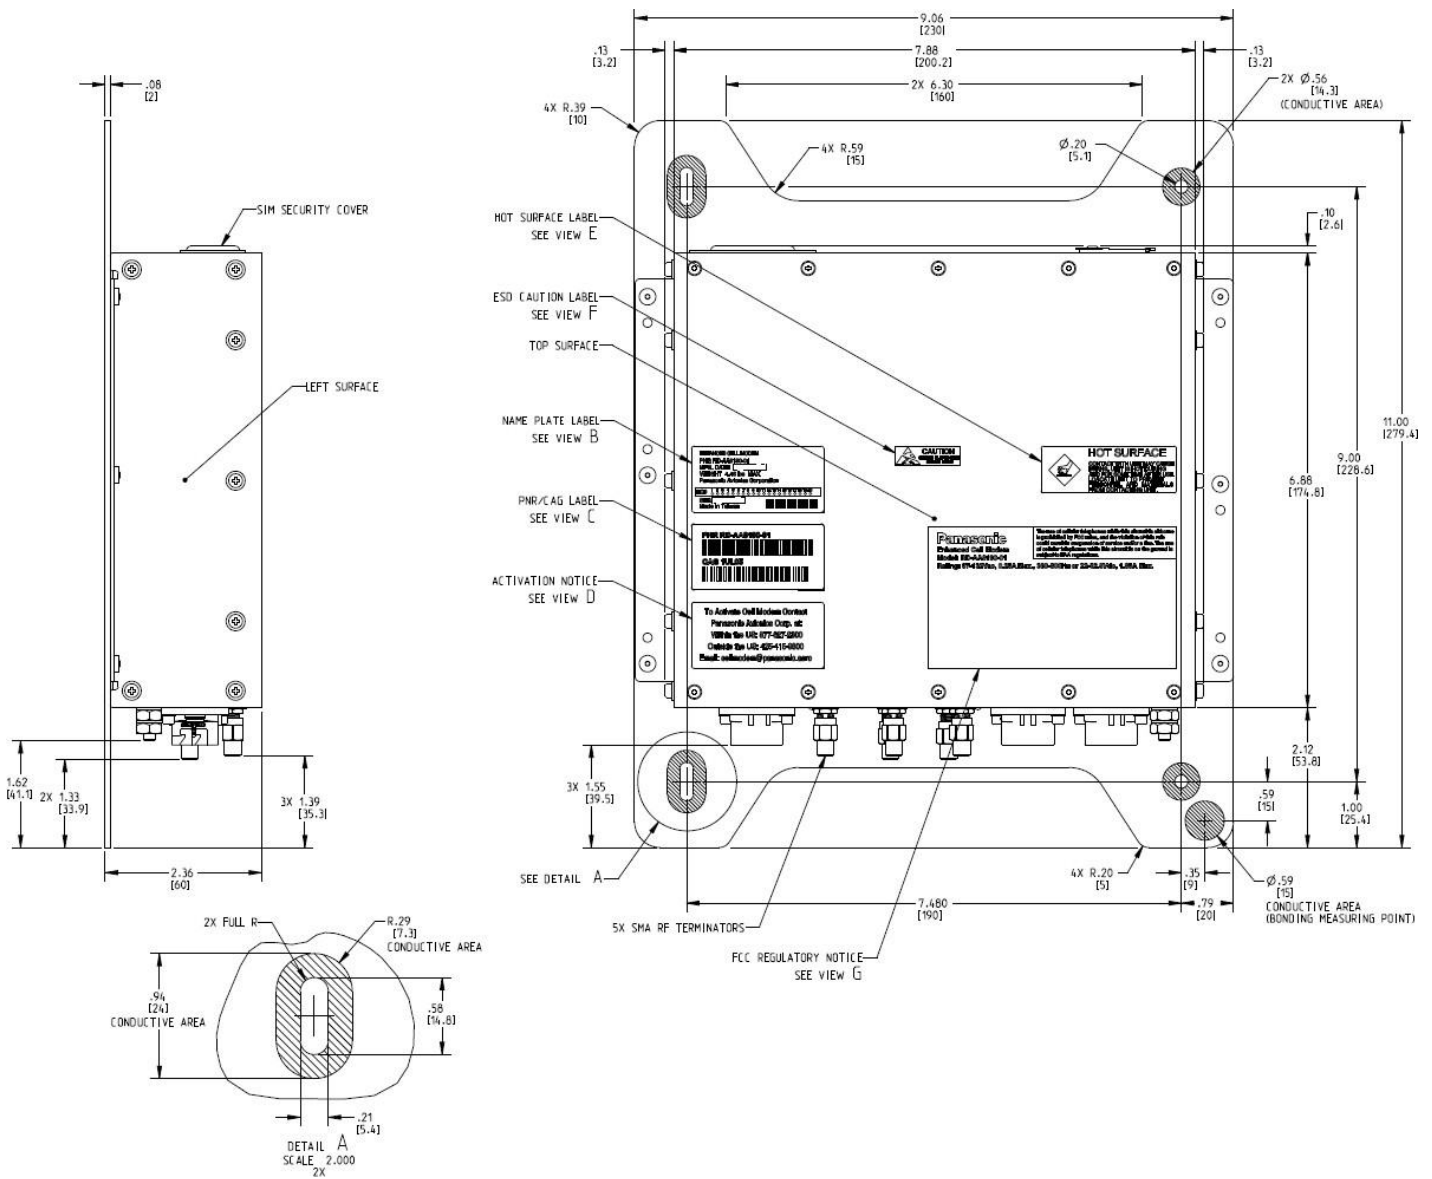
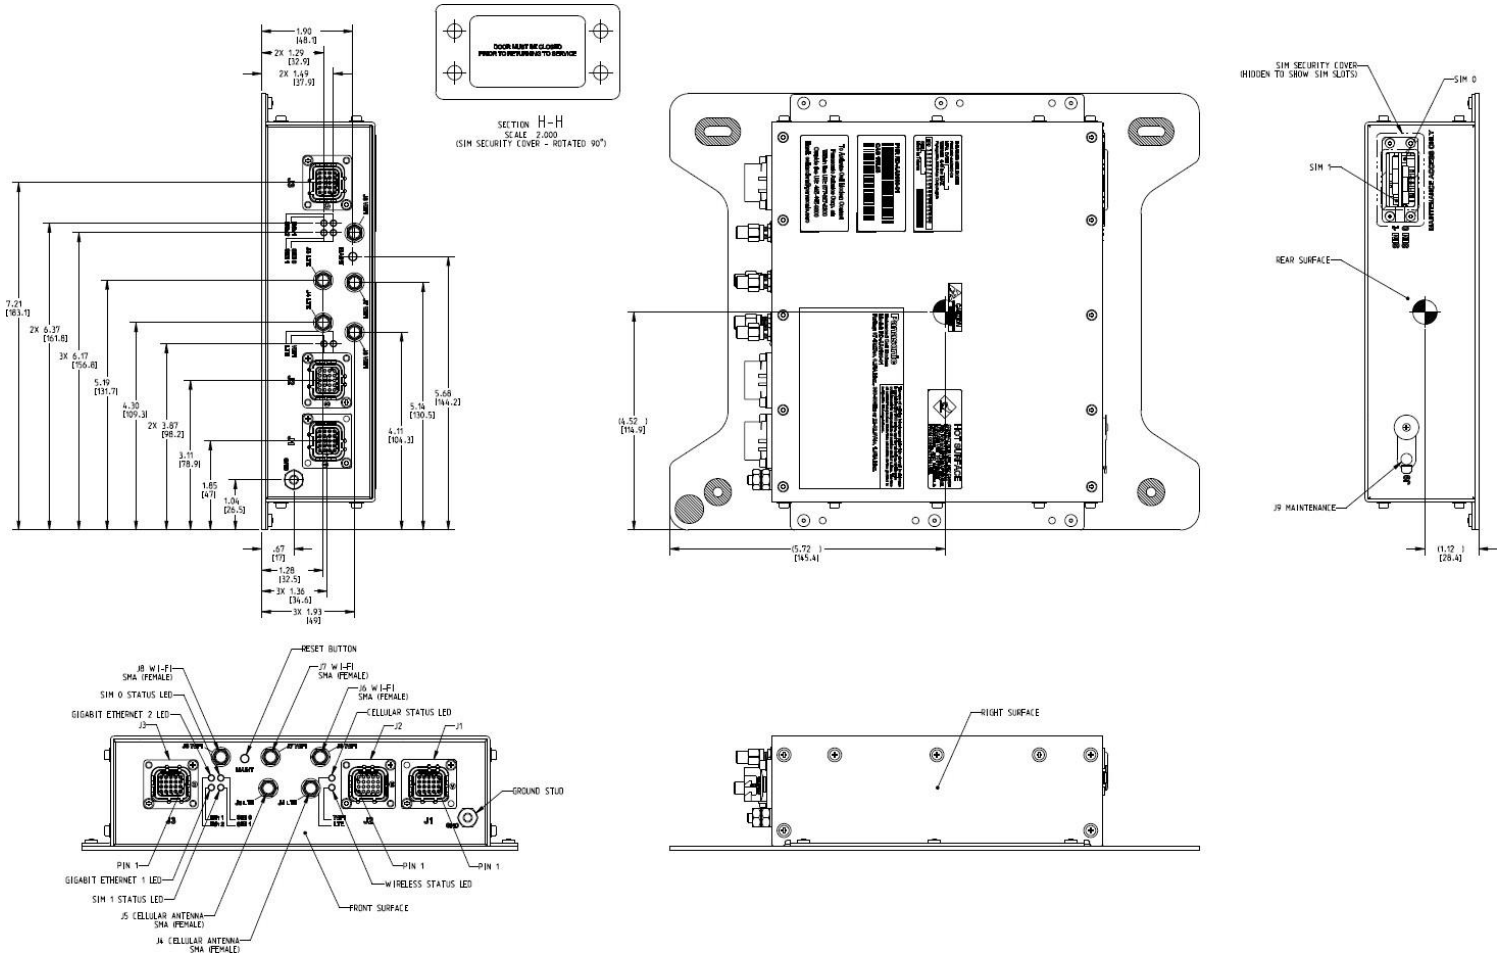

Figure 1: RD-AA8190-01 Enhanced Cell Modem Outline Drawing
Figure 2: RD-AA8190-01 Enhanced Cell Modem Outline Drawing (continued)
- The eCM Outline Drawing is shown in Figure 1 and Figure 2 are for reference only.